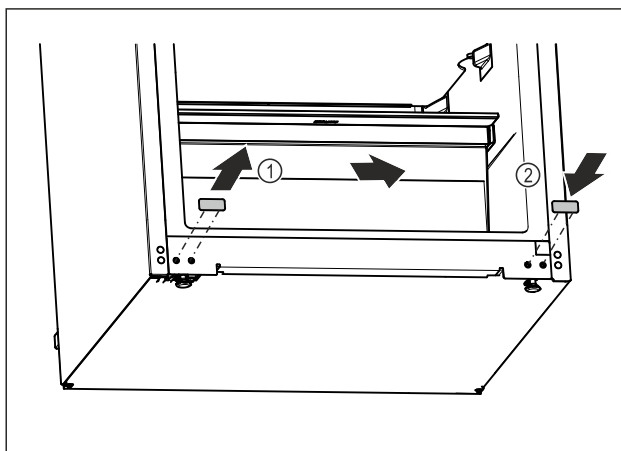

Fig. 13
- Pull out the cover plug. Fig. 13 (1)
- Insert the cover plug on the opposite side. Fig. 13 (2)